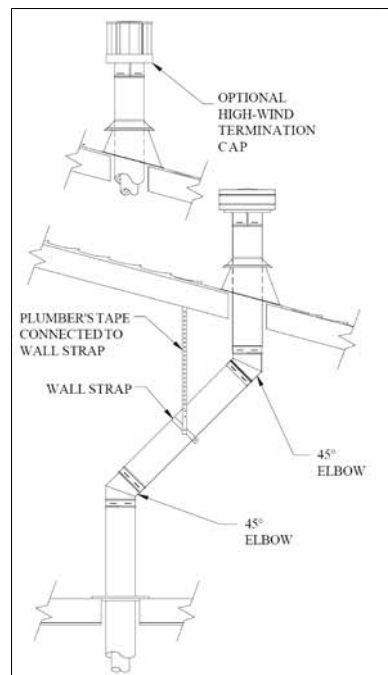

**Figure 40: Installation of Ceiling Firestop.**
- Step 3.** To install the Ceiling Firestop in a flat ceiling, cut a square hole in the ceiling 11" x 11" (280x280mm) square for 8" x 5" pipe, centered on the hole drilled in Step 2. Frame the hole as shown in Figure 40.
- (1) For multi-story vertical installations, a Ceiling Firestop is required at any subsequent floors (as shown in Figure 43). The opening should be cut and framed in the same manner as the opening in Step 3 (see Figure 40).
- (2) Any occupied areas above the first floor, including closets and storage spaces, which the vertical vent passes through, must be enclosed. The enclosure may be framed and sheet rocked with standard construction materials, however minimum allowable clearances between the outside of the vent pipe must be maintained. Do not fill any of the required air spaces with insulation.